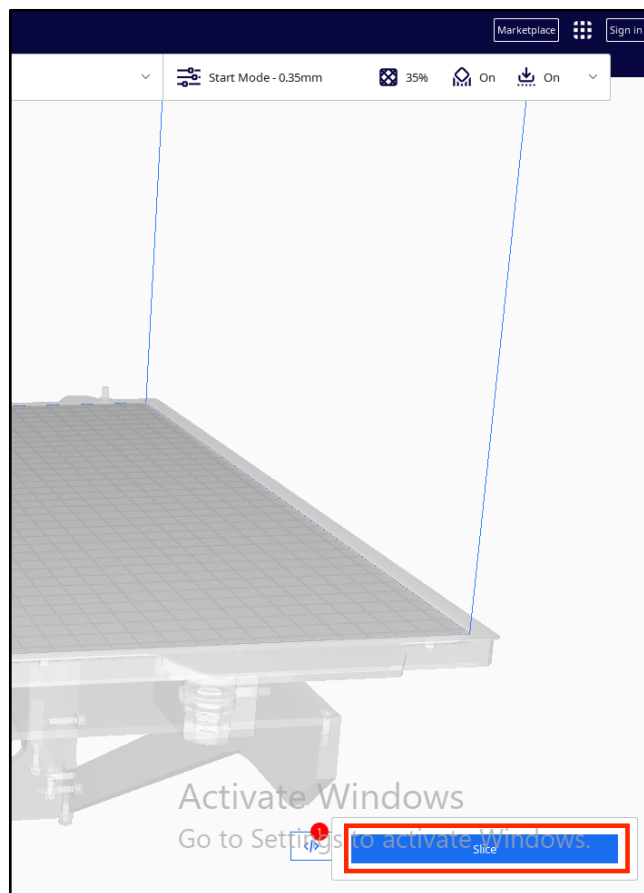

Figure 15: Slicing
22. Click on 'Slice' in lower-right hand corner of the page to begin slicing (See Figure 15).